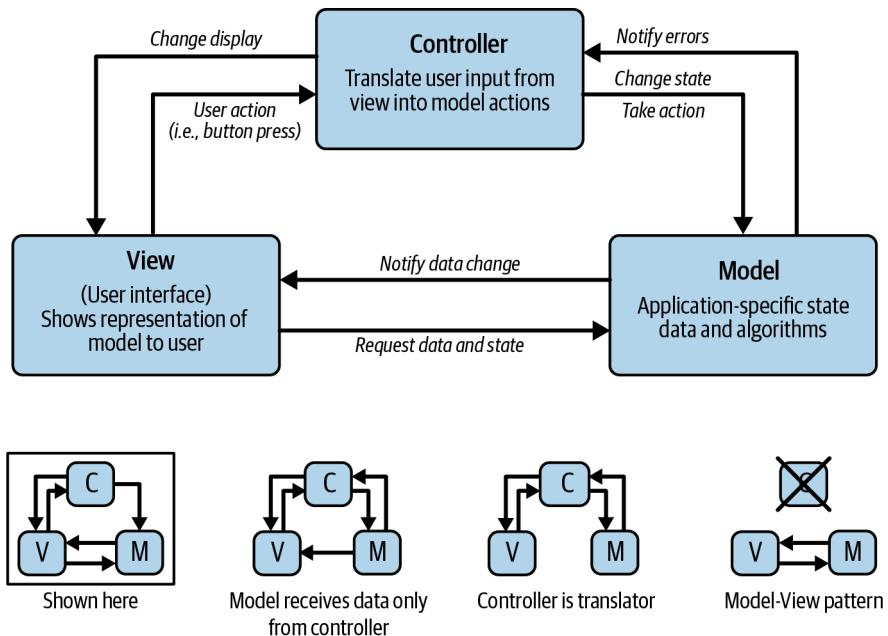

Figure 2-9. Overview of the model-view-controller pattern
**Figure 2-9** shows a basic interpretation of MVC and some common variants. There are a lot of different ways to put it together, some of them seemingly contradictory. The term “MVC” is kind of like the adjective “sanguine,” which can mean either murderous or cheerfully optimistic. You may need some context clues to know which it is, but either way, you are probably talking about someone’s mood.